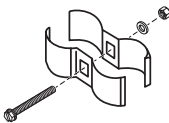

Figure 7
- Use appropriate grounding strap across the inlet and outlet piping of the water filter to ensure that a proper ground is maintained (see Figure 7).